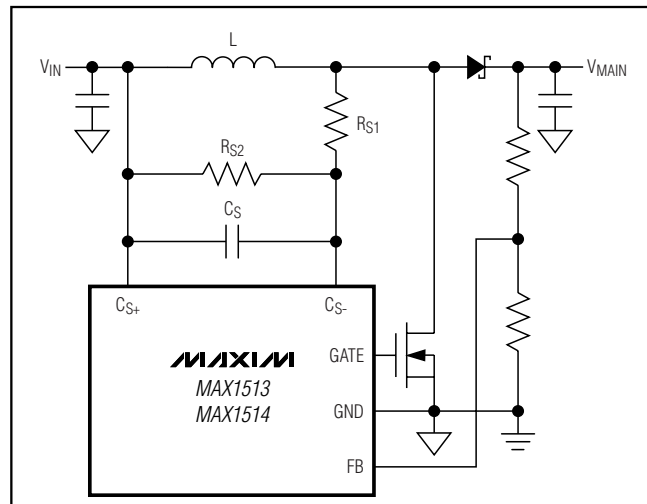

Figure 9. Lossless Current Sensing with  $V_{SENSE} > 100mV$
5) If  $V_{SENSE}$  is greater than 100mV, the current-feedback signal is too high and can trip the current limit before the full load current is delivered. Use the current-sense configuration in Figure 9 to attenuate the sense signal. Define the scale factor (SF) as:
Because  $V_{SENSE}$  would be greater than  $100\text{mV}$ , the circuit in Figure 9 should be used and the scale factor is: